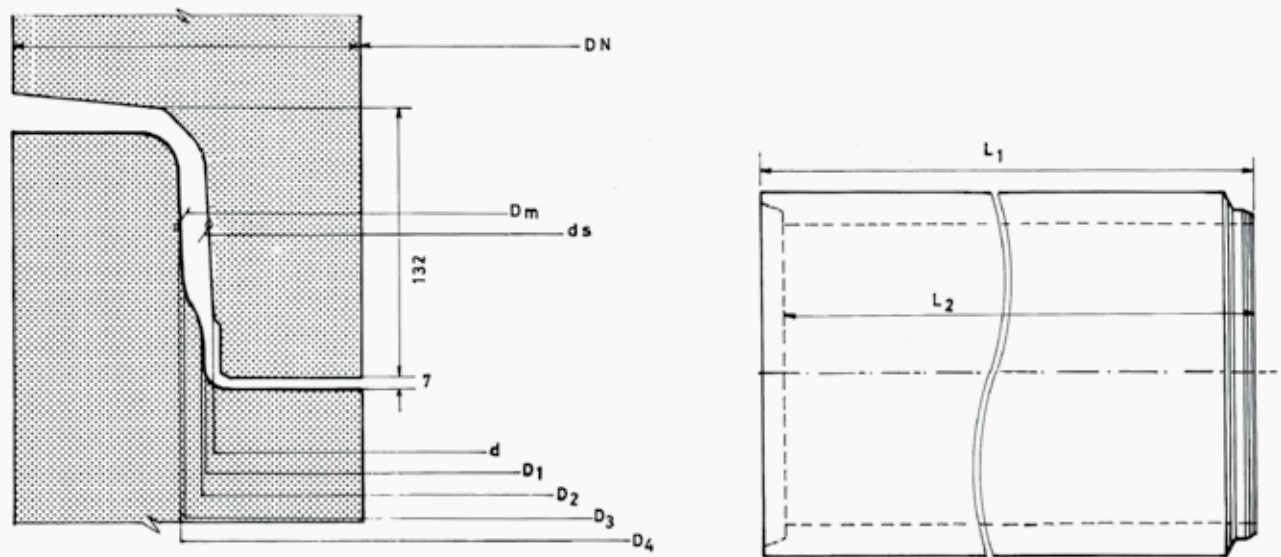

Fig. 21 Pipe dimension & shape
-Reinforced concrete pipes(~ 1600- 2100 mm) Fig. 21